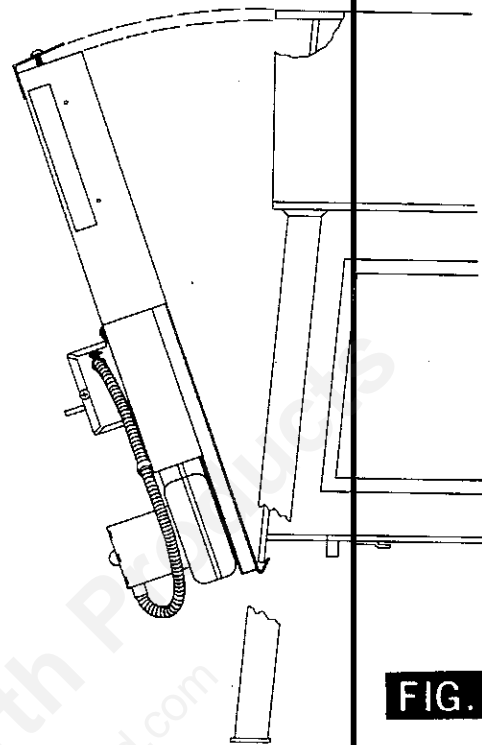

FIG. 1
- STEP 1** - There are two bent tabs on the bottom edge of the Blower Assembly. These tabs should be hooked under the bottom edge of the heater as shown in Figure 1.